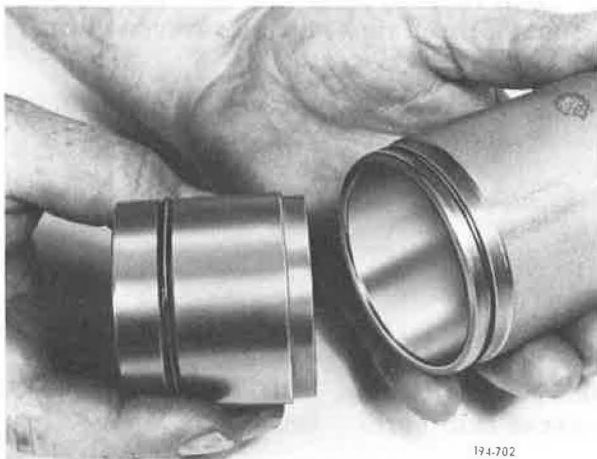

Figure 5-436. Installing Piston
11. Install Lo-range piston into Lo/Direct shift cylinder. See Figure 5-436.